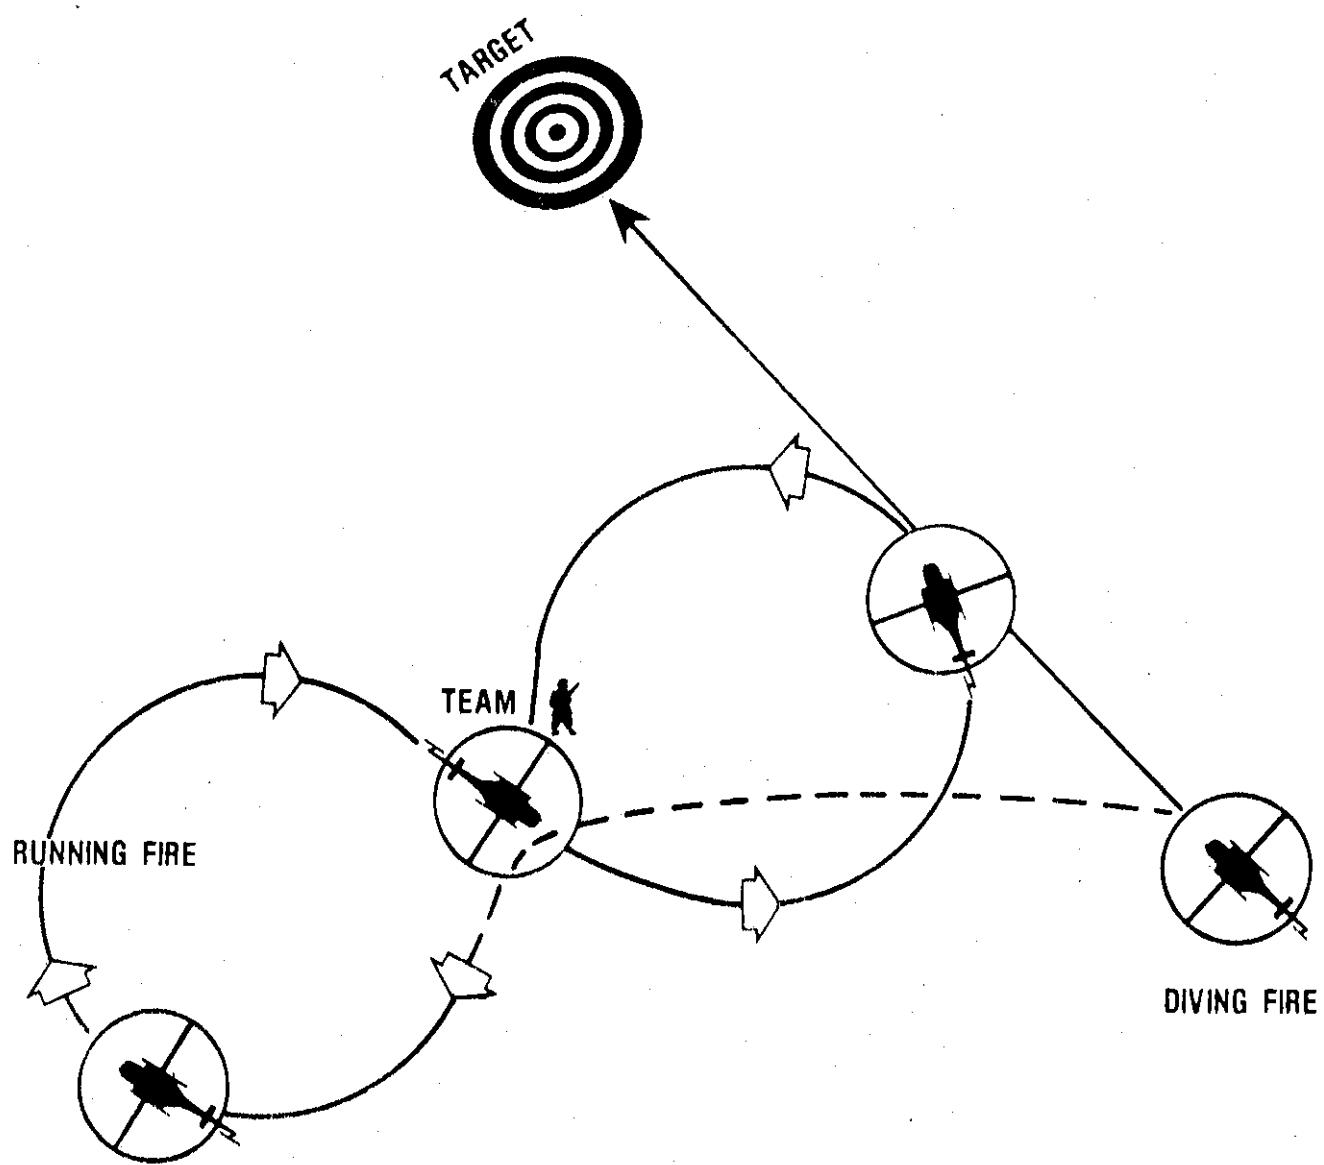

Figure 29-2. Figure "8" Pattern Entered From Diving Fire.
d. Figure "8" Pattern. This pattern is effective for both LZ security and attack. The helicopters are positioned so that each is in position to attack as the other helicopter disengages the target. Timing is important and care must be taken to vary the track over the ground. Turns are away from the target area. Entry into the Figure "8" may be from any position (Figure 29-2) using a combination of mixed ordnance (2.75 rockets, 40 mm gun or fixed forward fire). Offset the run in so as not to inadvertently hit the team:
(1) Advantages: